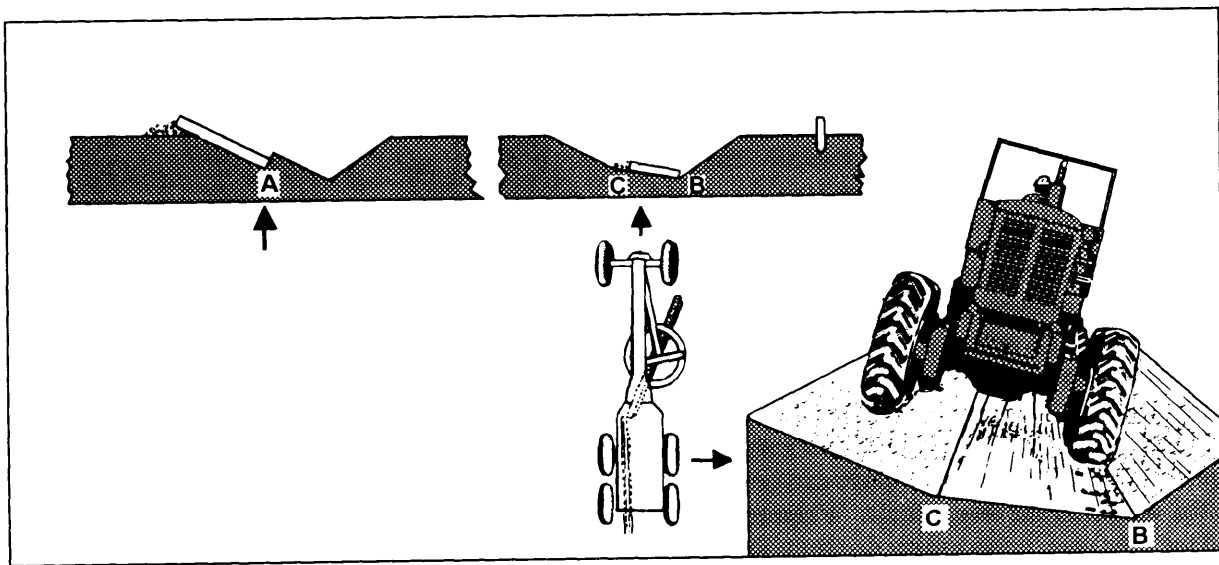

Figure 10-29.—Flat-bottom ditch cut.
Starting at the foreslope of the original V-ditch (A), as shown in figure 10-29, use the ditch-cutting procedures to cut another V-ditch. After the V-ditch is completed, the next step is to make a flat cut in the bottom of the ditch. This is performed by placing the complete length of the blade in the ditch. The toe is positioned at the base of the backslope (B), and the heel is positioned to side cast the windrow inside the rear